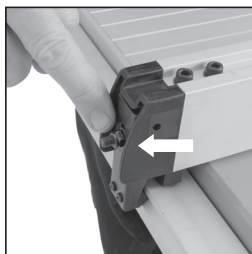

FIG. 15
- Turn the clamp pressure adjustment nut (Fig. 15) one flat either clockwise or counter-clockwise.